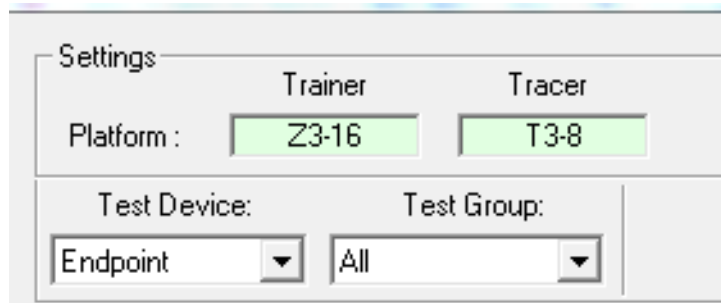

Figure 3.4: Hardware connection and test group selection.
4. Make sure that the software has detected both the Z3 and T3-8 or T3-16 hardware; this is shown in the **Settings** box (Figure 3.4).